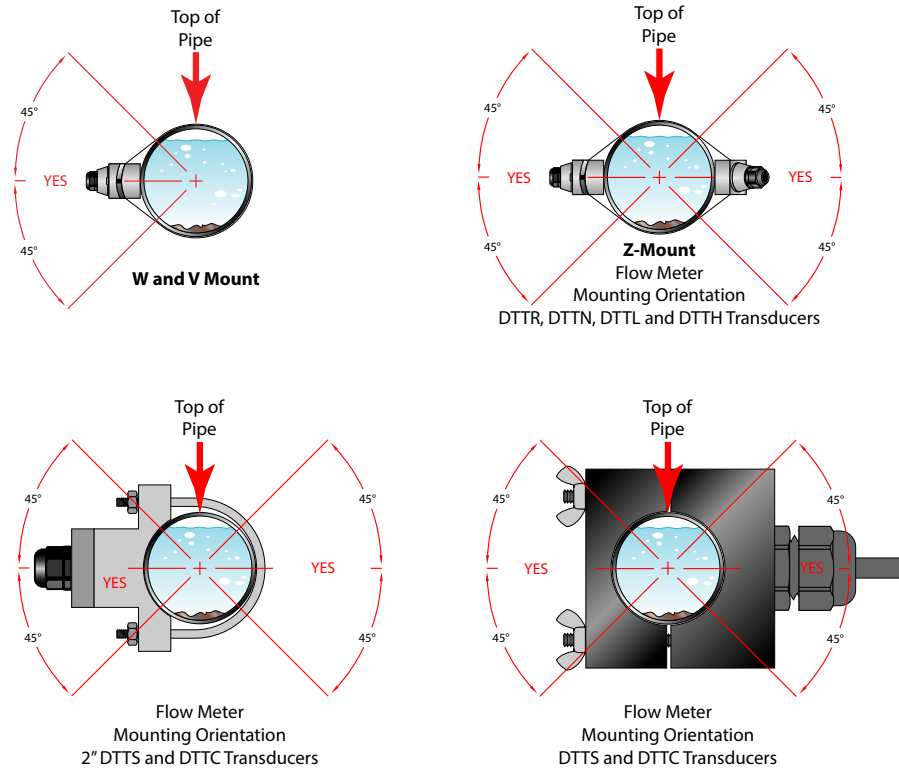

Figure 9: Transducer orientation for horizontal pipes
2. Orient and space the DTTR, DTTN, DTTL and DTTT transducers on the pipe to provide optimum reliability and performance. On horizontal pipes, when Z-Mount is required, mount the transducers 180 radial degrees from one another and at least 45 degrees from the top-dead-center and bottom-dead-center of the pipe. See Figure 9. Also see “Z-Mount Configuration” on page 22. On vertical pipes, the orientation is not critical.
3. Crease the paper at the fold line. Mark the crease. Place a mark on the pipe where one of the transducers will be located. See *Figure 9* for acceptable radial orientations. Wrap the template back around the pipe, placing the beginning of the paper and one corner in the location of the mark. Move to the other side of the pipe and mark the pipe at the ends of the crease. Measure from the end of the crease (directly across the pipe from the first transducer location) the dimension derived in *“Select a Mounting Configuration”* on page 17. Mark this location on the pipe.